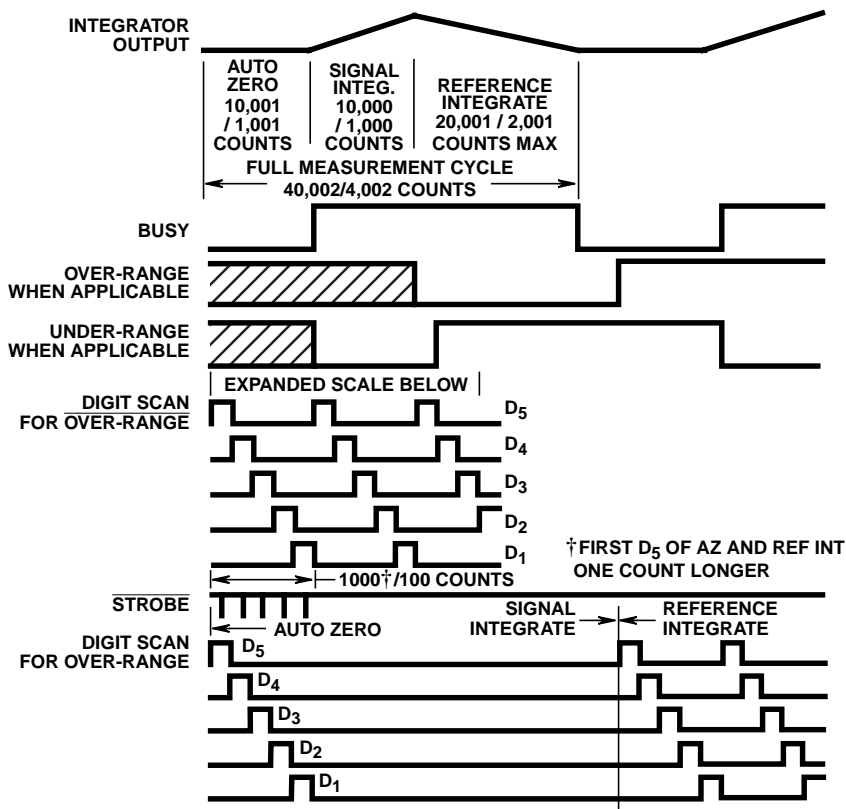

FIGURE 5. TIMING DIAGRAM FOR OUTPUTS
9. Tested in 31/2 digit (2,000 count) circuit shown in Figure 5, clock frequency 12kHz. Pin 2 71C03 connected to GND.
10. Tested in 41/2 digit (20,000 count) circuit shown in Figure 5, clock frequency 120kHz. Pin 2 71C03A open.